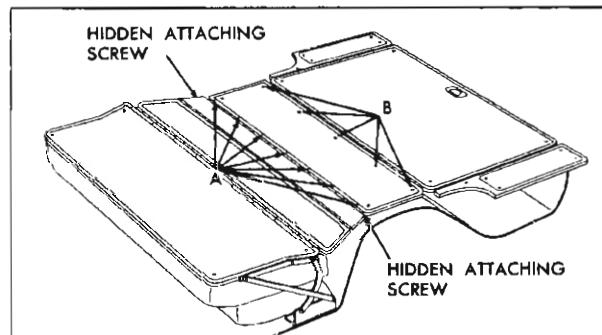

Fig. 17-9 Compartment Floor Panel Assembly
2. Remove rear floor filler panel to rear seat pan attaching screws as shown at "A" in Fig. 17-9.
- NOTE: Attaching screws are located at each end of panel (See Hidden Attaching Screw, Fig. 17-9).
support panel attaching screws, shown at "B", Fig. 17-9 and remove compartment floor panel assembly from body.